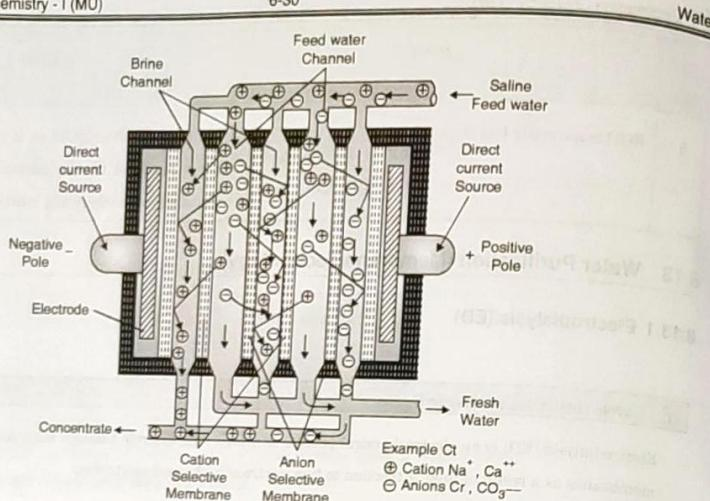

Fig. 6.13.1 : Shows movement of ions in ED
- The anions are able to pass through the anion-selective membrane, but are not able to pass by the cation-selective membrane, which blocks their path and traps the anions in the brine stream (Fig. 6.13.1).